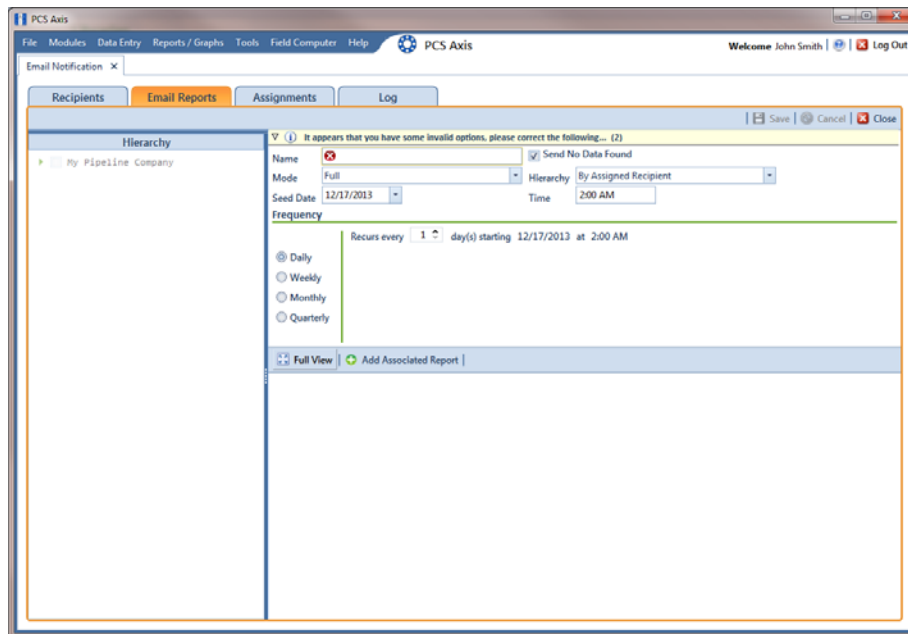

Figure 11-7. Email Reports
- 2 Click **Email Reports** , then click  **Add** (Figure 11-7).
- 3 Type a name for the email report in the **Name** field. Fields requiring information include a  red icon, such as *Name* shown in the previous example (Figure 11-7, page 458).